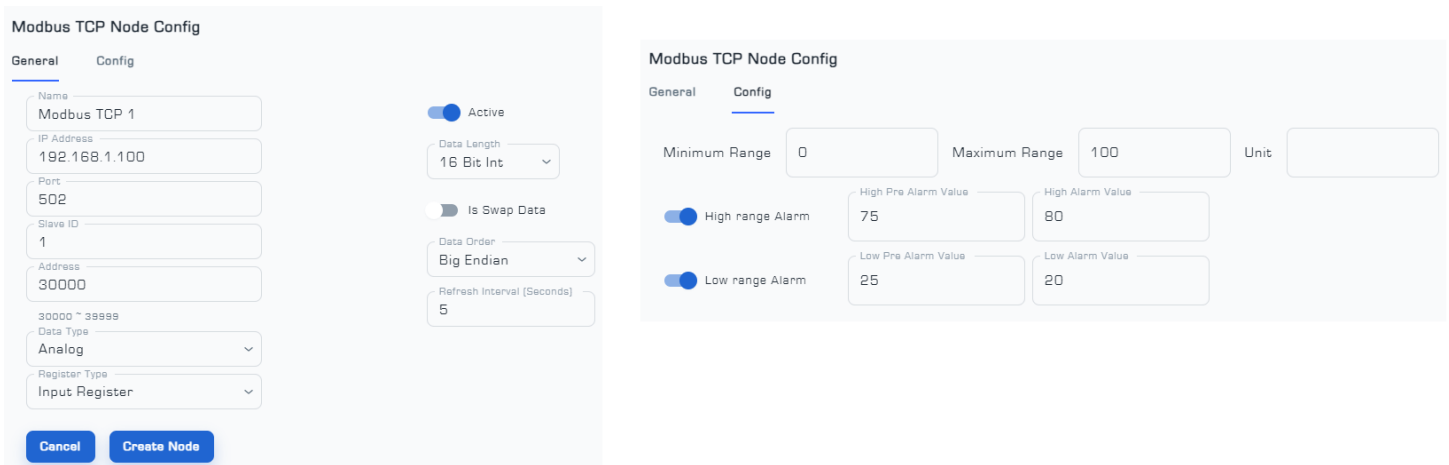

Figure 39: Settings related to adding a new Node in the virtual card
- (2) Add the general settings for Modbus TCP on the 'General' page and other configuration settings for the Node on the 'Config' page (Figure 39).
- (3) To save the settings, select the 'Create Node' option on the 'General' page (Figure 39).
- (4) You can apply the remaining settings on any Modbus management software to read the information of that Node.